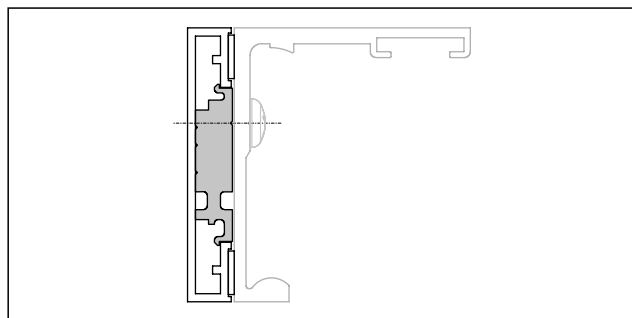
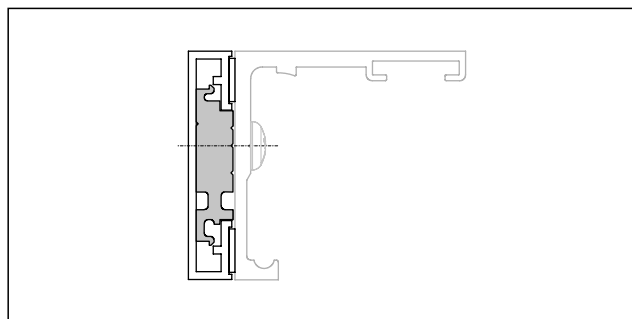

Fig. 21 Lining profile installation position for MUTO Premium XL80/150, Self-Closing 120 and Telescopic 80
Fig. 22 Lining profile installation position for MUTO Comfort L 80
1. Depending on the MUTO sliding door system, insert the lining profile into the counter profile from the side (Fig. 21, Fig. 22 or Fig. 12).